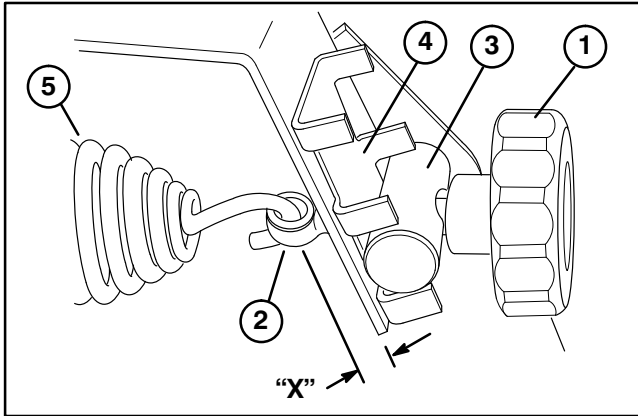

Figure 35
- Loosely secure anchor bolt and spring to upper or lower hole in frame bracket (Fig. 35) with round spacer and counterbalance adjustment knob positioning as follows:
4. To tension rear counterbalance spring, rotate counterbalance knob (Fig. 35) until distance between center of anchor bolt opening and inside of frame “X” is as follows: